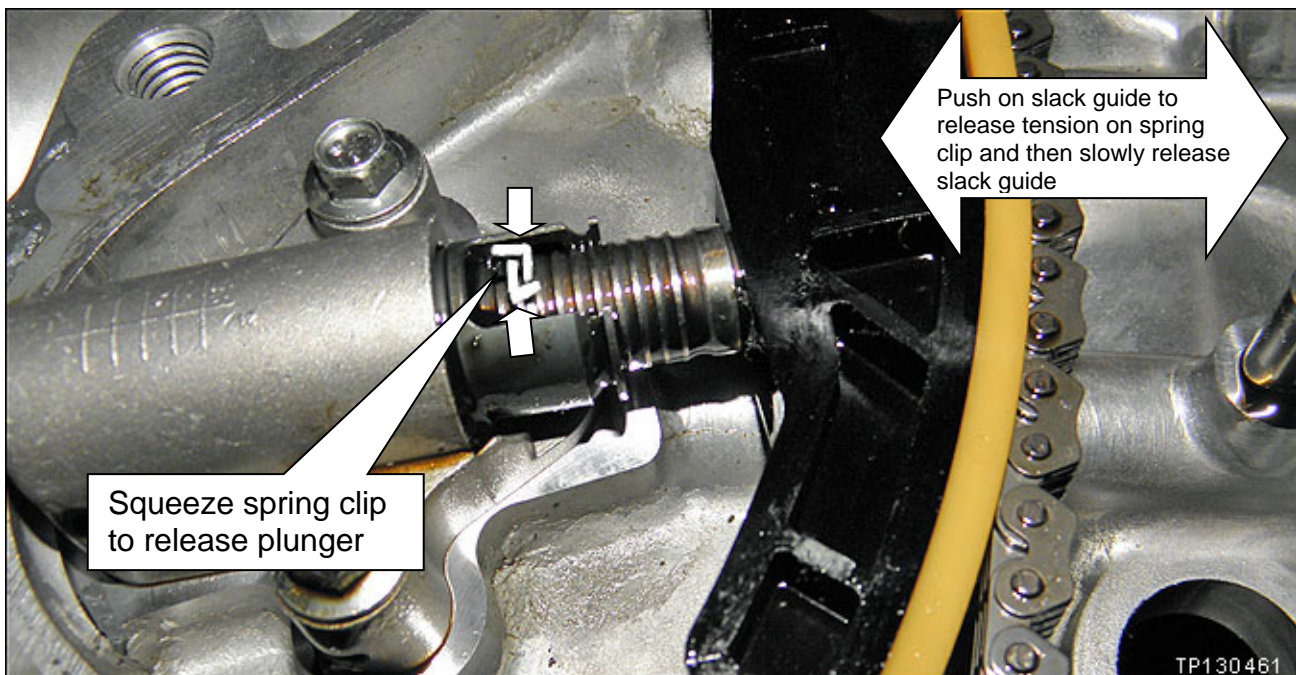

Figure 39
50. Release the timing chain tensioner plunger as follows (see Figure 39):